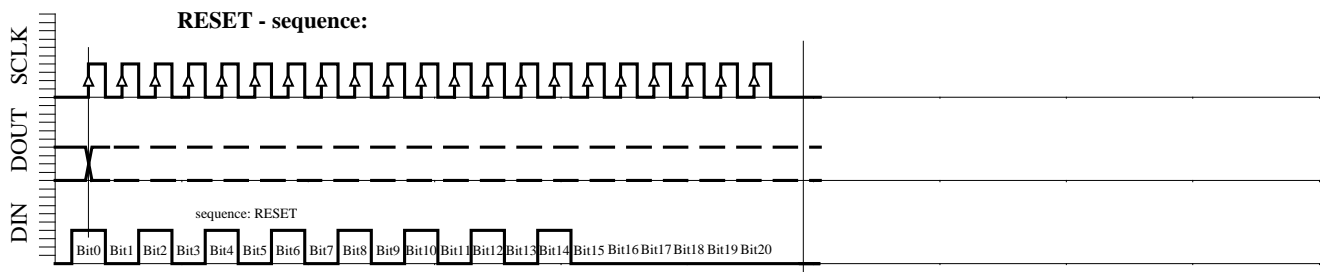

Fig. 6e: Reset sequence (21-Bit)
- RESET sequence (Figure 6e)
The RESET-sequence is special as its unique pattern is recognized by the module in any state. By consequence it can be used to restart if synchronization between the microcontroller and the MS5534 has been lost. This sequence is 21-Bit long. The DOUT signal might change during that sequence (see Fig. 6e).